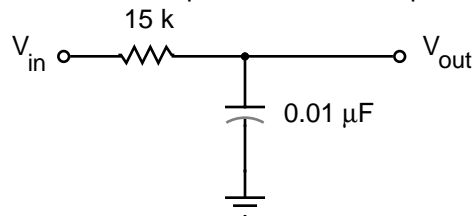
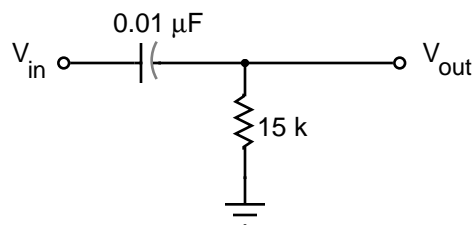

Fig. 2.1
Fig. 2.3
a) Construct the filter of Fig. 2.1. Drive it with a sine wave and measure the attenuation  $V_{out}/V_{in}$  as a function of frequency. Check to see if the filter attenuates 6dB/octave for frequencies well above the  $-3\text{dB}$  point (or simply the 3dB point). Measure the resistor's value and use the attenuation curve to calculate the capacitance and compare with its nominal value.
a) Use the frequency-sweep method to display the attenuation of the high-pass filter in Fig. 2.3 as a function of frequency and take a picture. Carefully examine the response at very low frequencies by manually changing the frequency.
a) Apply a 100 kHz square wave signal to the low-pass filter of Fig. 2.1 and explain the output wave form. Apply a 100 Hz square wave to the high-pass filter of Fig 2.3 and explain the output.
4. For the circuit of Fig. 2.1 plot graphs of  $\frac{|V_{out}|}{|V_{in}|}$  vs. frequency